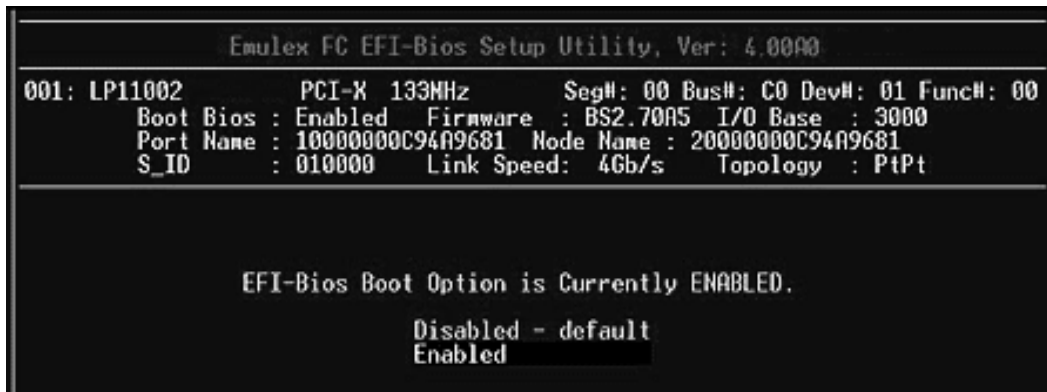

Figure 28: BIOS Enabled screen.
- If the current status is disabled, select **Enabled** and press **<Enter>**. The status changes to enabled (Figure 28).